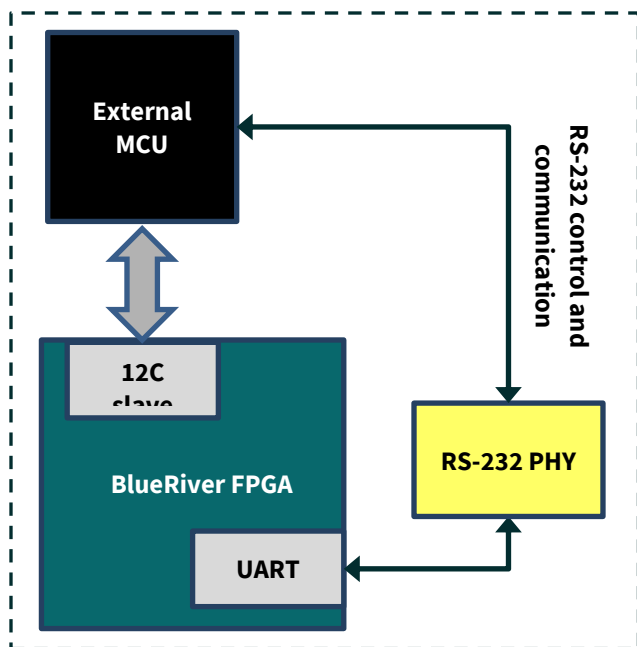

Figure 12: Connecting external MCU to RS-232
1. Connect BlueRiver chipset UART to the external microcontroller. Control and communicate with the microcontroller using RS-232 commands and data through the BlueRiver API. Refer to Figure 12: Connecting external MCU to RS-232.